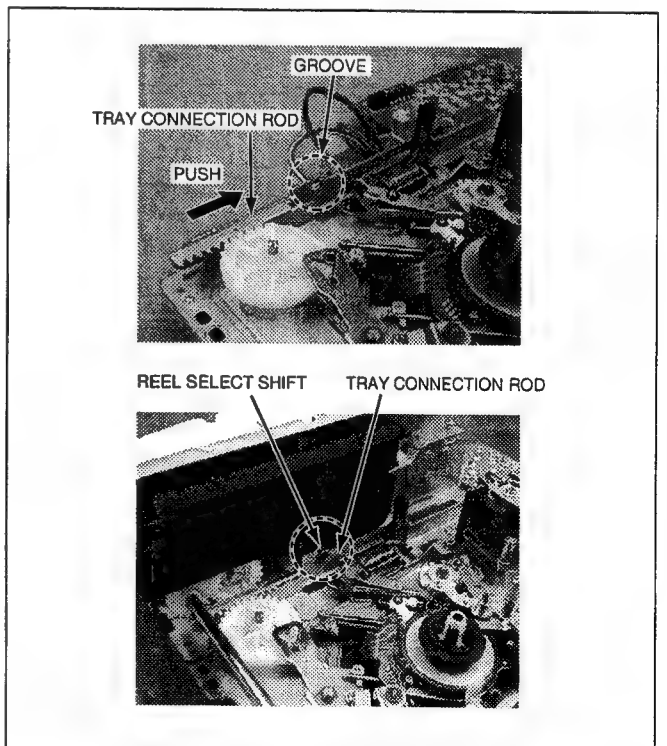

Fig. T-5
- Fig. T-5 Push the Tray Connection Rod in the rear direction and install the Tray Unit so that the Reel Shaft on the Side Plate (S) meets the groove on the Tray Connection Rod.